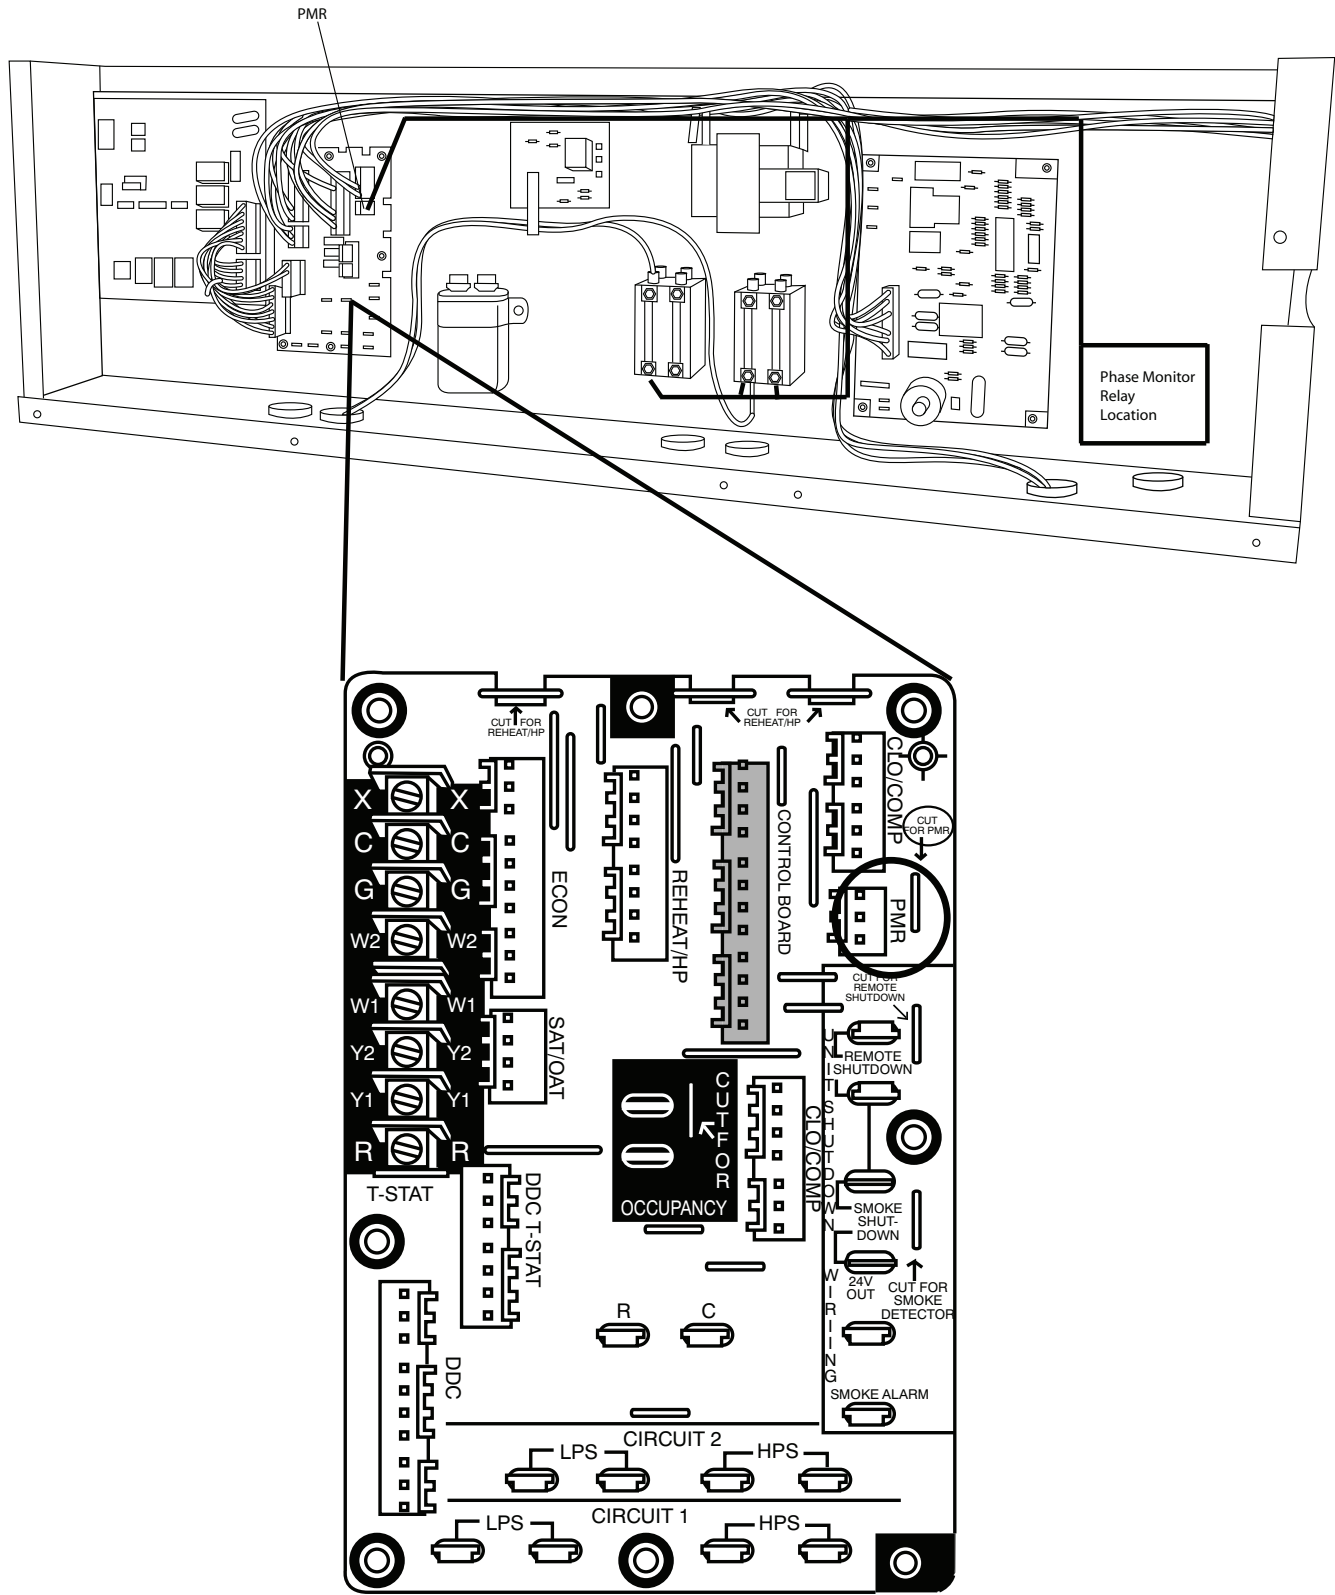

Fig. 2 - Controls Box Showing Mounting Location and Recommended Wire-Routing Path with Exploded View of Terminal Board (YAC with 3-Phase Indoor Fan Motor Shown)
2. Install the phase monitor module in the unit control box as shown in Fig. 2. Use the screws provided in the kit, screwing into the pre-drilled holes in the back of the control box.
3. Using the provided wiring harness, connect the female molex plug to “PMR” male connector on the units mounted terminal board. See the terminal board diagram on Fig. 2.
8. Cut the PMR jumper on the terminal board. (See Fig. 2.)